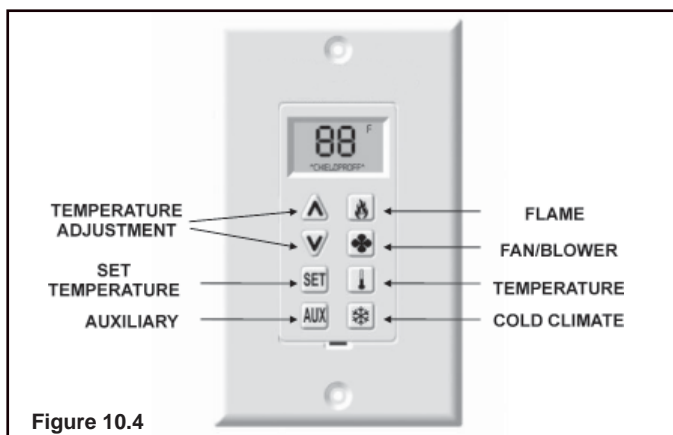

Figure 10.4
- Press flame button once (Fig. 10.4); fireplace will light with flames on high.
- Turn solenoid clockwise to increase pressure, counterclockwise to decrease pressure until manifold pressure on high is 3.5" water column for natural gas (NG), 10.0" water column for propane (LP).
See Figure 10.4.